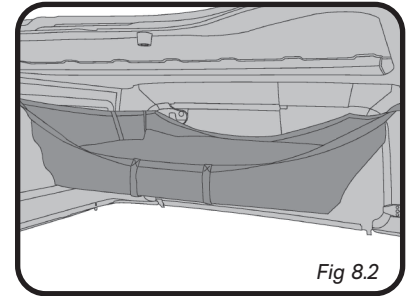

Fig 8.2
4. Lower the hardtop to chest height and place the roof panels into the cargo net. (Fig 8.2) We recommend you put the roof panels in their storage bags (not included) to protect them during storage.